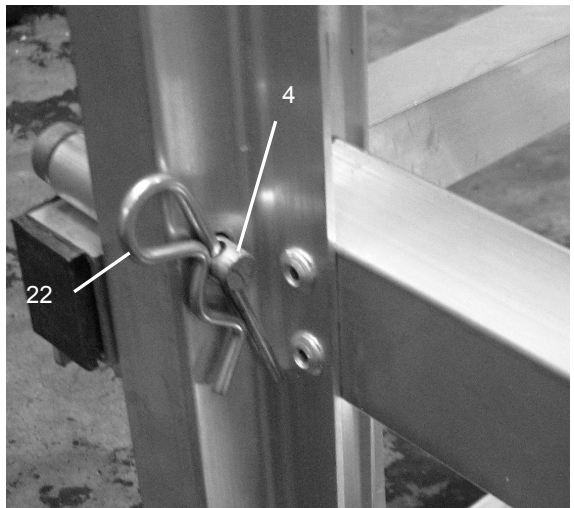

Figure 6
8. Swing the Ramp up, and use the Pins (4) and Lock Pins (22) to lock Ramp in upright position. See Figure 6.
10. Insert Hitch Pin (10) through holes in both hitches and fasten in place using Hitch Lock Pin (11).